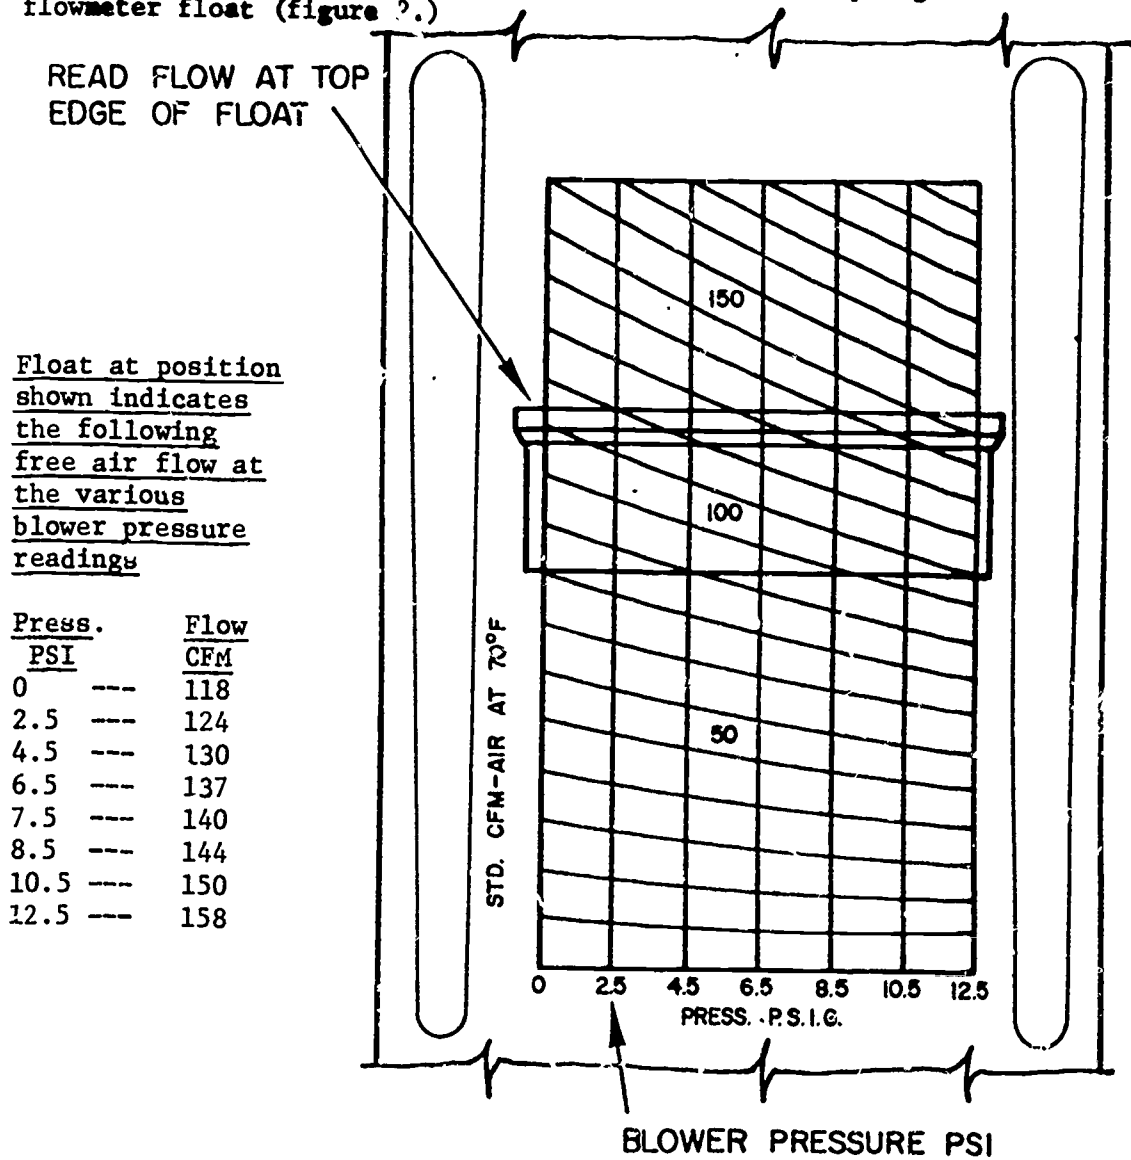

Figure 2. MB-3 Flowmeter.
b. Find the point on the tester FLOWMETER SCALE where the vertical line (shows blower pressure) cuts the top edge of the flowmeter float (figure 2.)